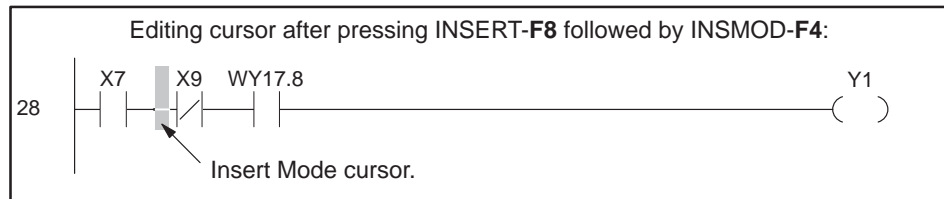

Figure 7-11 Insert Mode
3. Press **INSMOD-F4**. The editing cursor changes as shown in Figure 7-11.